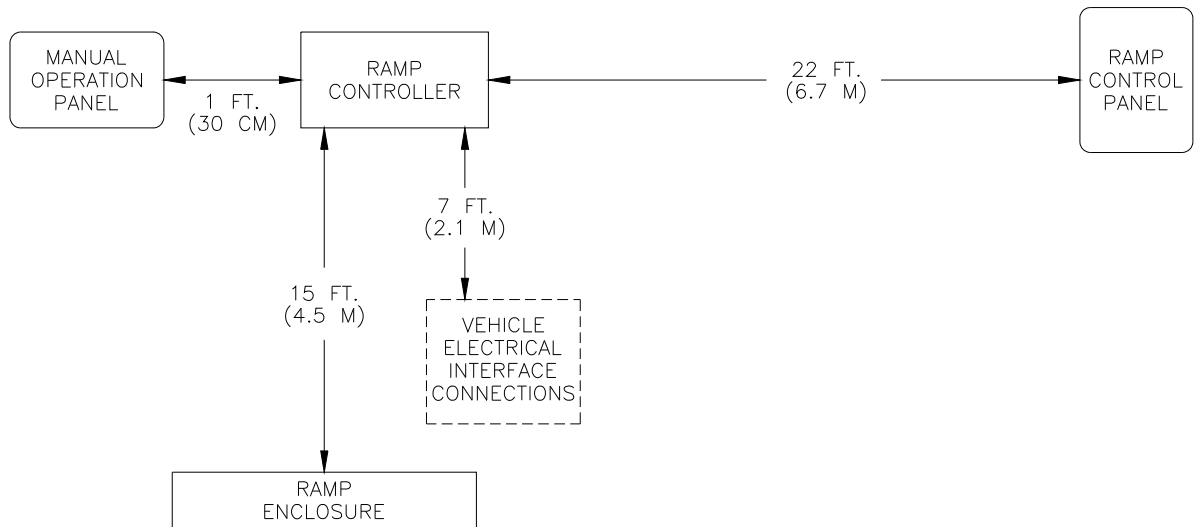

FIGURE 2-4: COMPONENT MAXIMUM DISTANCES
- a. Refer to **Figure 2-4**. Mount manual operation panel, ramp controller, and ramp control panel within maximum distances. Ramp control panel must be visible and reachable from drivers' position.